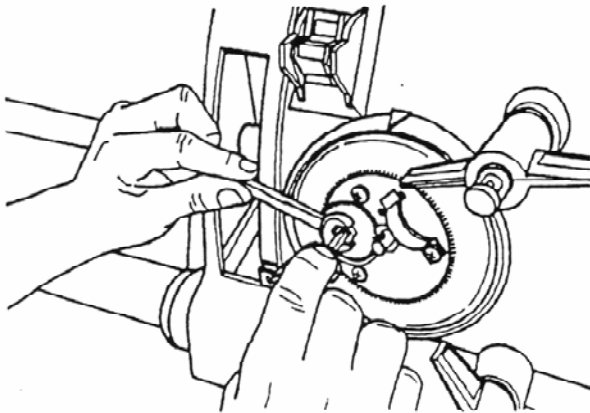

Fig. 6
5. Loosen the jam nut. Hold the setscrew with a screwdriver and loosen the jam nut with a 7/16" open end wrench, as shown in Fig. 6.